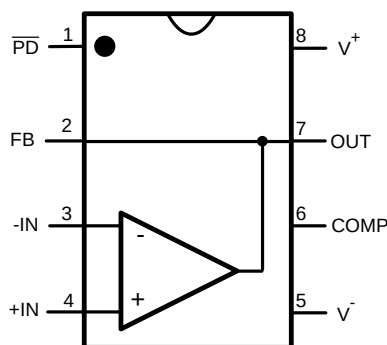

**Figure 48. 8-Pin WSON Pinout Diagram**
The LMH6629 (WSO8 package only) has some additional features to allow maximum flexibility. As shown in Figure 48, there are provisions for low-power shutdown and two internal compensation settings, which are discussed in more detail in Compensation. Also provided is a feedback (FB) pin which allows the placement of the feedback resistor directly adjacent to the inverting input (IN-) pin. This pin simplifies printed circuit board layout and minimizes the possibility of unwanted interaction between the feedback path and other circuit elements.